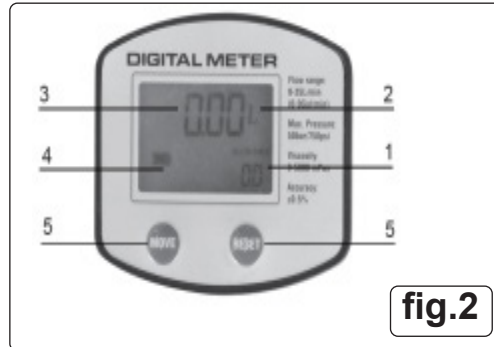

fig.2
- 5.2.1. User Buttons (fig.2)
- Area 2 in fig.2 shows units